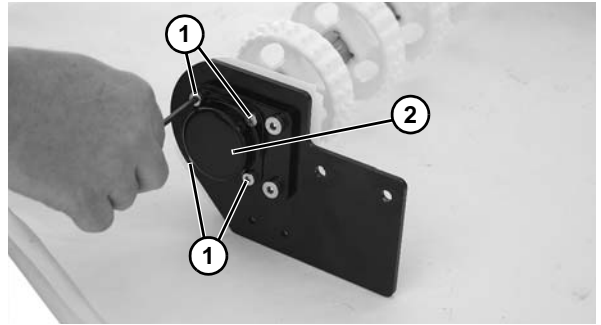

Figure 45
4. Remove the four socket head screws (Figure 45, item 1) and cover (Figure 45, item 2).